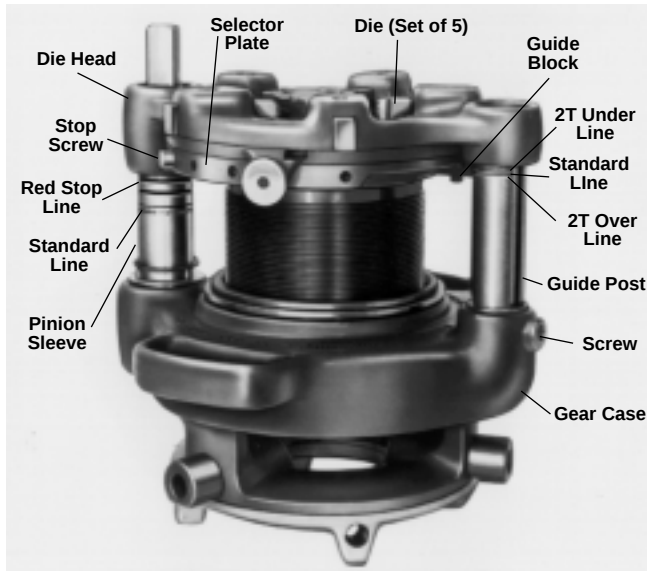

Figure 14 – No. 141 Geared Threader showing Pinion Sleeve and Guide Post Reference Lines
straight thread, or tapered slot inward for tapered thread. *Figure 14* shows guide post set to cut tapered thread.
1. Remove stop screw (*Figure 14*) from selector plate.
3. Remove worn die set (*Figure 14*) and insert new die set.
5. Release foot switch when red STOP line appears on pinion sleeve (*Figure 14*).
3. Flood dies with RIDGID Thread Cutting Oil using RIDGID 418 Oiler during threading operation to assure long die life. 141 and 161 – Release foot switch when red stop line appears on pinion sleeve. (Figure 14)